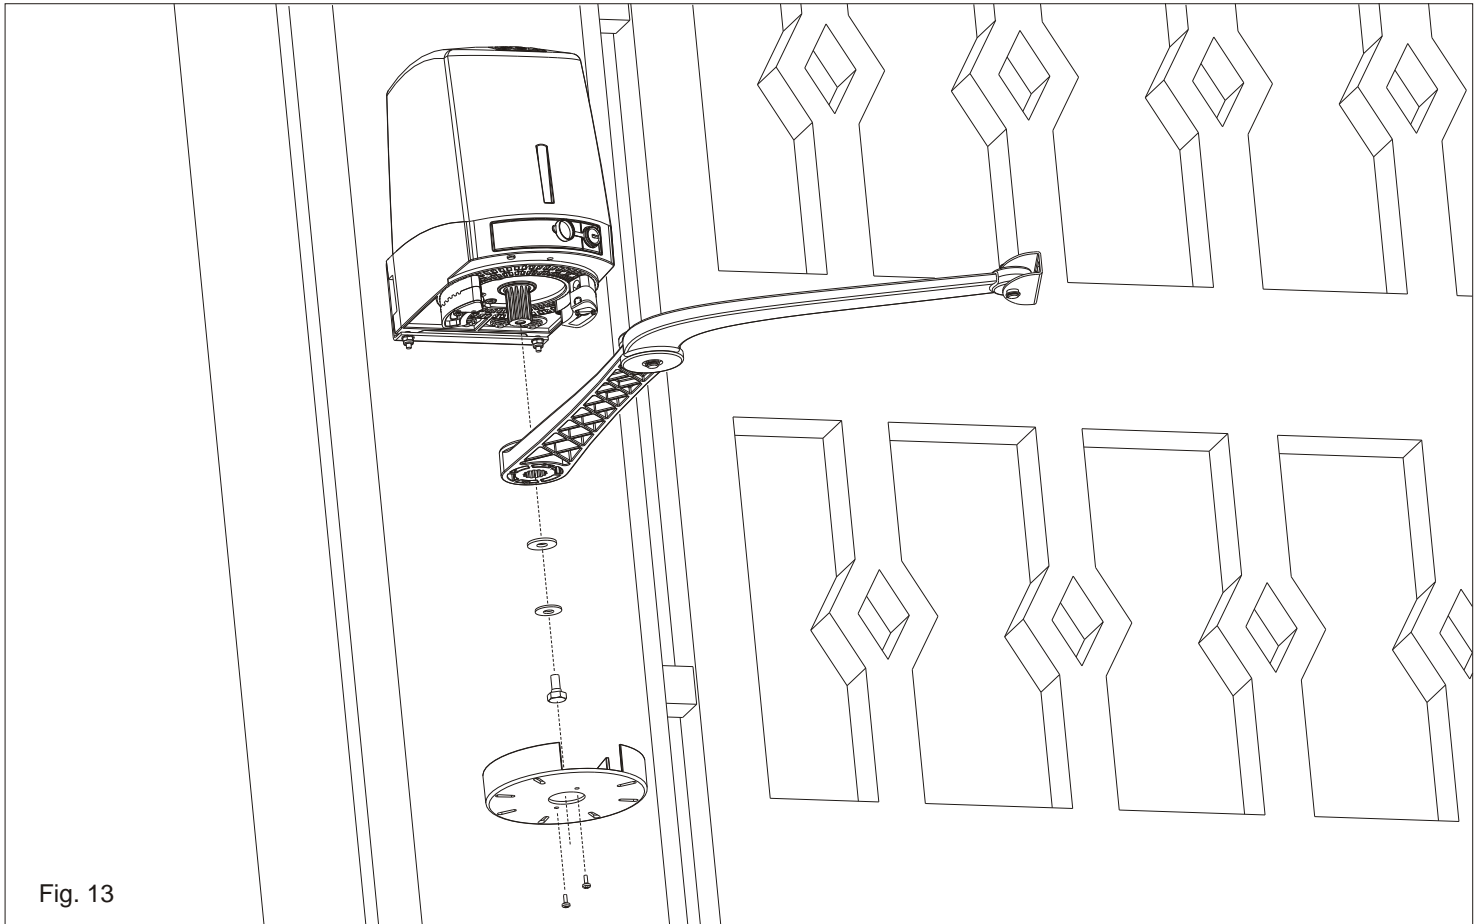

Fig. 13
- Fit the articulated arm into the motor shaft and lock it with the special screws (Fig. 13).